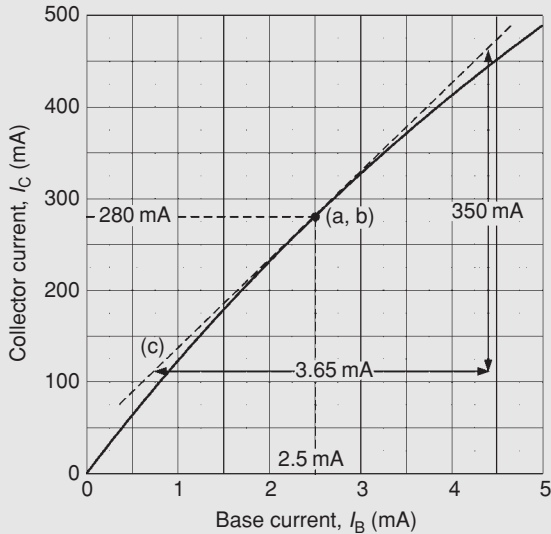

Figure 12.15
Problem 5. Figure 12.15 shows the transfer characteristic for an n-p-n silicon transistor. When the base current is 2.5 mA, determine (a) the value of collector current, (b) the static value of current gain, and (c) the dynamic value of current gain.
- (a) From Fig. 12.15, when $I_B = 2.5$ mA, **collector current, $I_C = 280$ mA** (see point (a, b) on the graph)
- (c) In Fig. 12.15, the tangent through the point (a, b) is shown by the broken straight line (c). Hence, **the dynamic value of current gain**